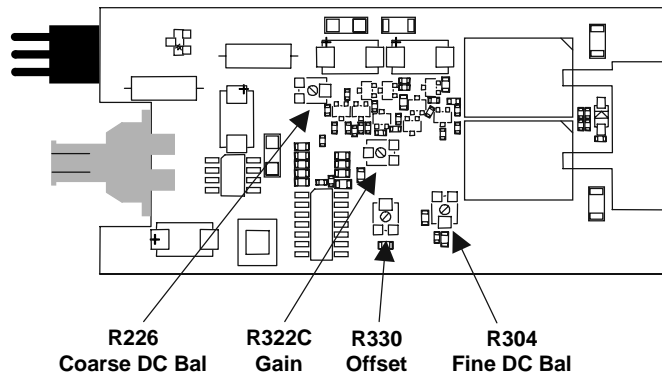

Figure 11. Amplifier Board Adjustment Locations
5. Adjust **Coarse DC Bal** (R226) on the amplifier board for an output voltage of  $0\text{ mV} \pm 10\text{ mV}$ . (See Figure 11 for location.)
- Adjust **Fine DC Balance** (R304) until the **+10 EFFECTIVE GAIN** indicator lights. (See Figure 11.)
11. Adjust **Offset** (R330) to bring the trace back to exactly center screen. (See Figure 11.)
9. Adjust **GAIN** (R322C) so that the DMM reading is within  $\pm 1$  mV (0.5%) of the reading recorded in step F-6. (See Figure 11.)